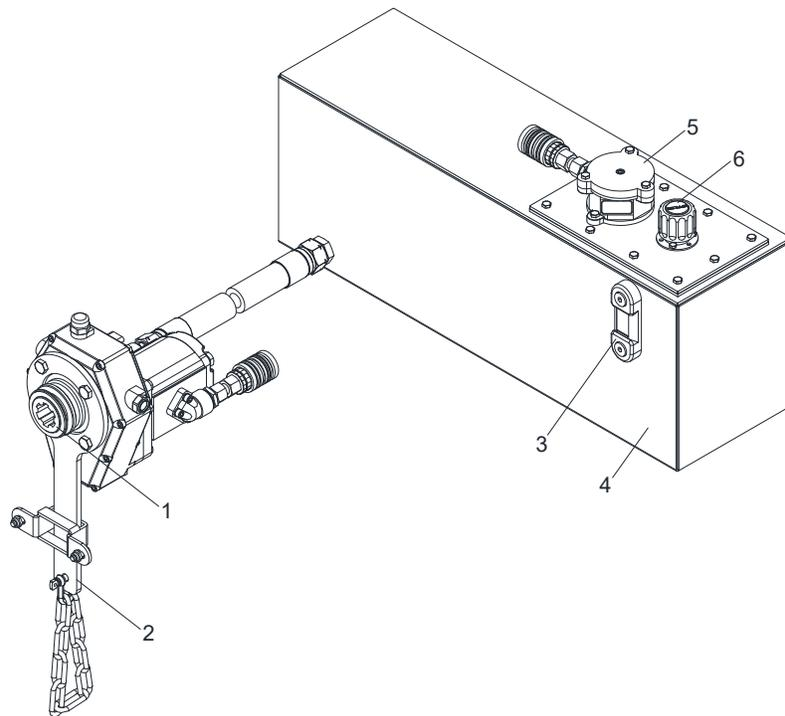

Fig. 13 PTO driven External oil supply unit
The external oil supply unit consists of a PTO gearbox with slip-on pump (Fig. 13/1), torque arm with safety chain (Fig. 13/2), sight glass (Fig. Fig. 13/3), hydraulic tank (Fig. Fig. 13/4), return filter (Fig. 13/5) and filling and venting filter (Fig. 13/6).
- ▶ Before starting work, check the oil level in the hydraulic tank (Fig. 13/3). An insufficient oil quantity can lead to damage or destruction of the hydraulic pump.